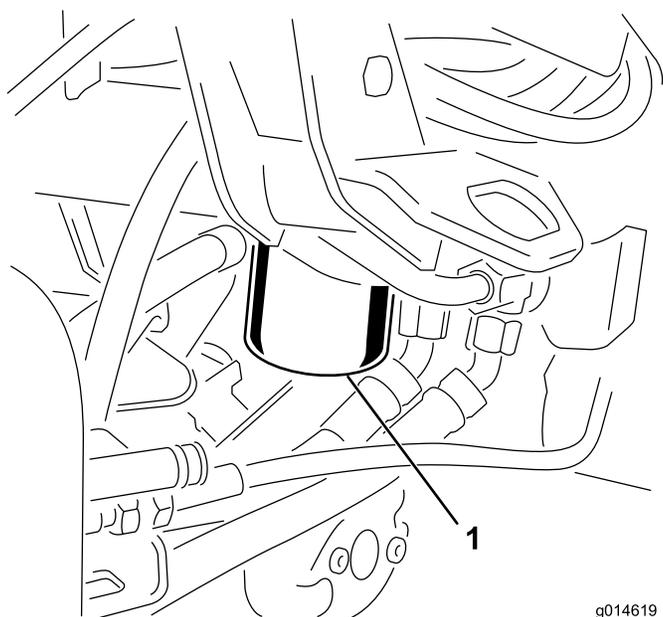

Figure 56
1. Clean the area around the filter mounting area (Figure 56). Place a drain pan under the filter and remove the filter.